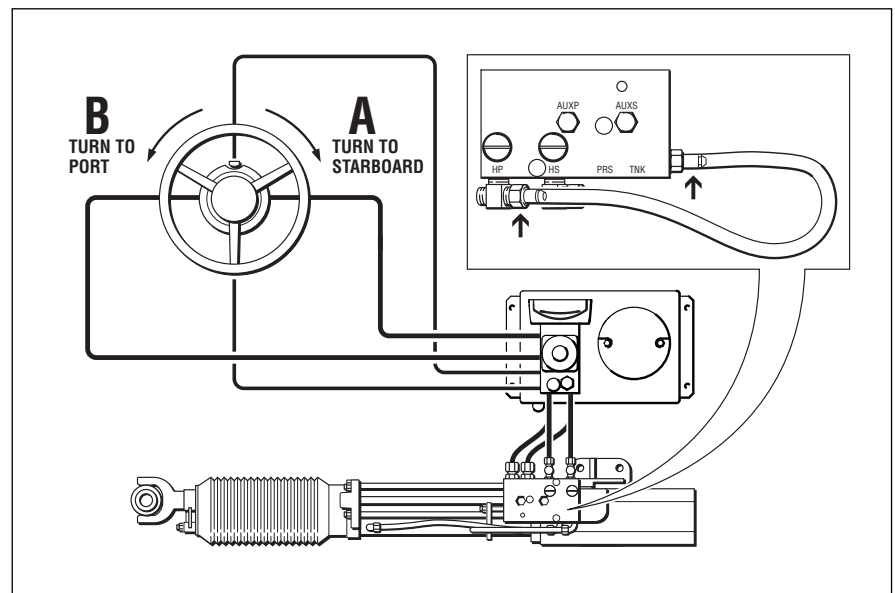

Figure 13.
- 4 Connect the bleeder tube to the HP bleeder tee and the tank bleeder fitting on the power steering cylinder (Refer to Figure 13.) Open bleed fittings 1/4 – 1/2 turn. Use supplied spring clamps to retain hose securely.
- 7 Referring to Table 1 and Figure 13 and starting at your highest helm station, turn the wheel starboard (configuration A) or port (configuration B) until cylinder is fully retracted. If cylinder is already fully retracted, proceed to the next step.